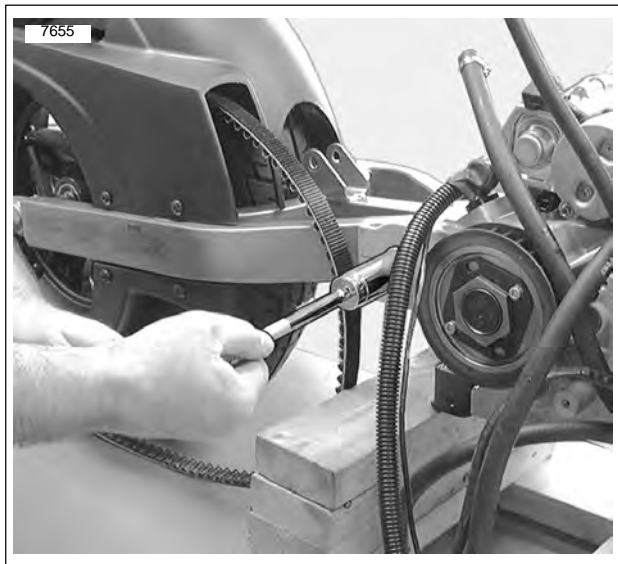

Figure 3-19. Swingarm Pivot Shaft
- 33. See Figure 3-19. Remove swingarm pivot shaft and rear wheel as an assembly. See 2.20 SWINGARM.